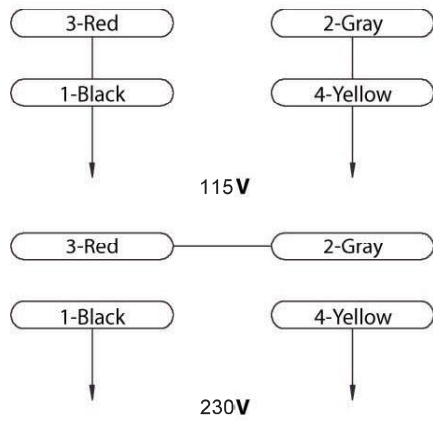

Figure 4 – Wiring Diagram
- Motor and wires are installed as shown in wiring diagram (See Figure 4, page 5). Motor is assembled with approved, 3-conductor cord to be used at 115/230 volts. Motor is prewired at the factory for 115 volts.